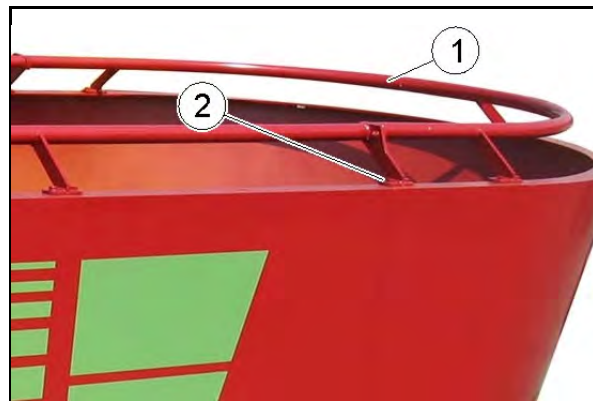

Fig. 18
- an elevated overflow ring (Fig. 18), screwed on the top edge of the container,